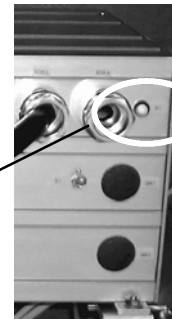

Figure: 2-39 LED indication Interswitch Unit
- (1) Open ISU
- (2) Locate terminal B2 and connect the CAN- BUS between the displays and the ISU in series, make sure the CAN- BUS is terminated properly at the beginning and the end.
- (3) Power up the ISU and one display at a time and observe the LEDs in the ISU (Figure: 2-39).
- (4) There should be NO flashing red LED (if red LED flashing, reverse CAN- BUS on the display).
- (5) Deenergize all units and connect the transceivers (uplink, 15V enable, ground) to terminal B40 observing the correct order/ numbering of the XCVRs and downlink of the XCVRs to TB2 using BNC connectors.
- (6) Route a coax cable from the ISU video outputs to the corresponding displays primary video input.
- (7) Energize the ISU and displays 1- 4.
- (8) At the displays use the service menu, configuration, transceiver setup, set the correct number of displays and transceivers, leave the tool and restart the radar program.
- (9) Go back to XCVR configuration, enable at the primary input ISU and ALL XCVRs, restart the radar program.